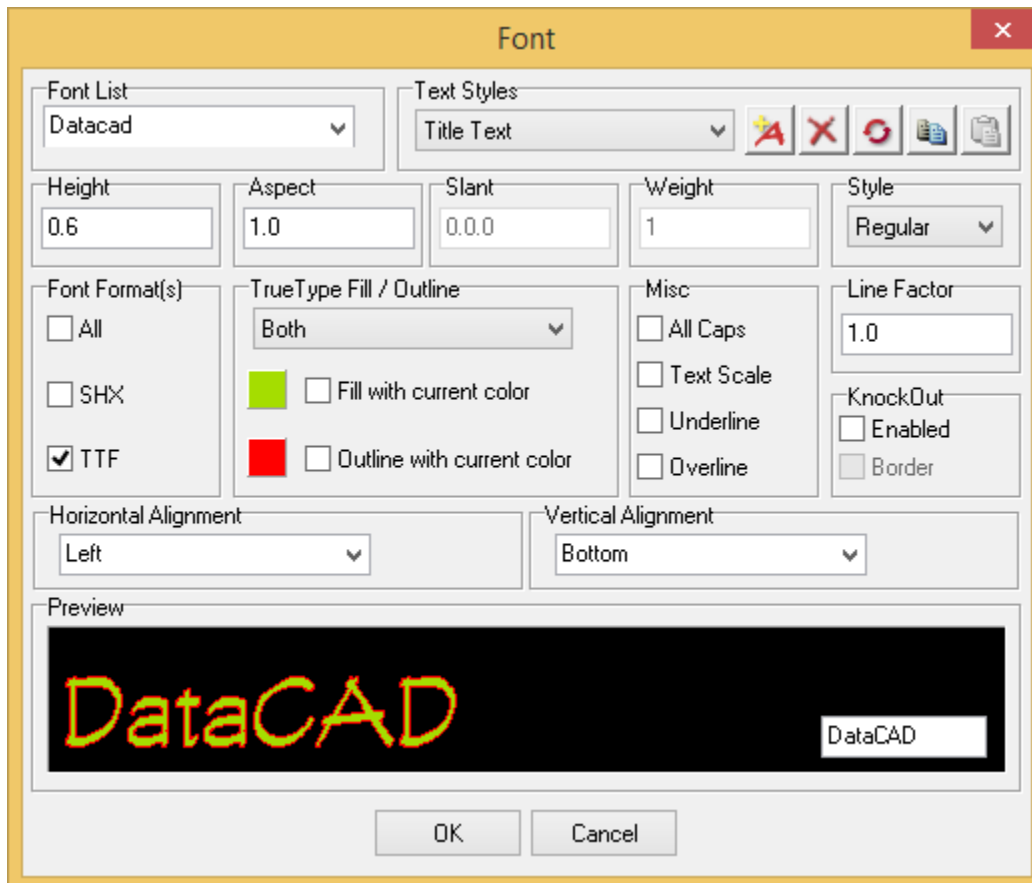

Figure 13.12: Control the appearance of TrueType fonts.
2. Type something in the small box at the lower right corner of the Font Preview area. For example, in Figure 13.12, HapPenInc is the name of the company that manufactures pens. The larger display shows what the text will look like, depending on the font you highlight in the Font List section of this dialog box.